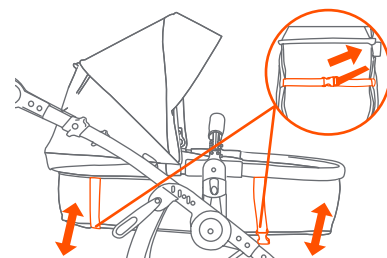

Fig. 11b
• **Upright and Reclined Position:** Buckle the footrest and headrest straps on the rear of the seat. Pull the excess straps to tighten the seat (Fig. 11b).
• **Carriage Position:** Make sure both footrest and headrest straps are loosened and extend the seat surround fully (Fig. 11b).